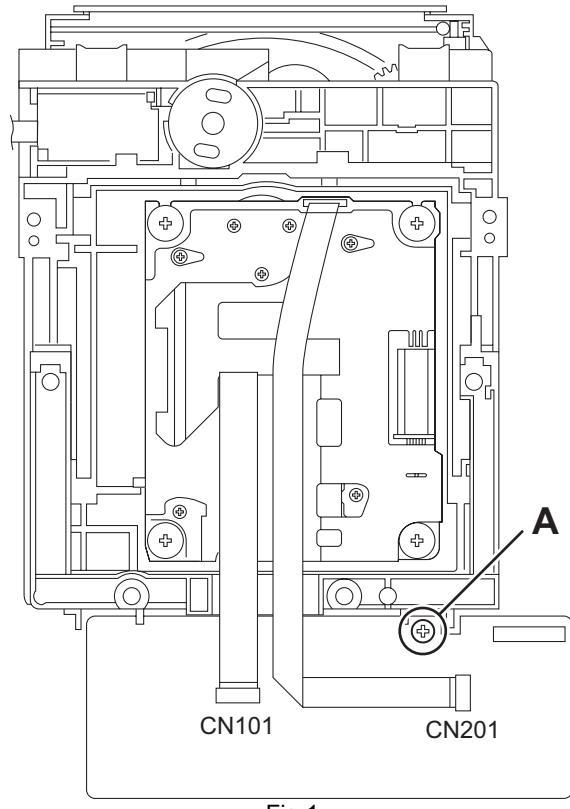

Fig.1
(See Fig.1 to 4)
- (1) Remove the one screw **A** attaching the Front end board. (See Fig.1)
- (5) Disconnect the card wire from CN101 and CN201 on the DVD module board. (See Fig. 1)